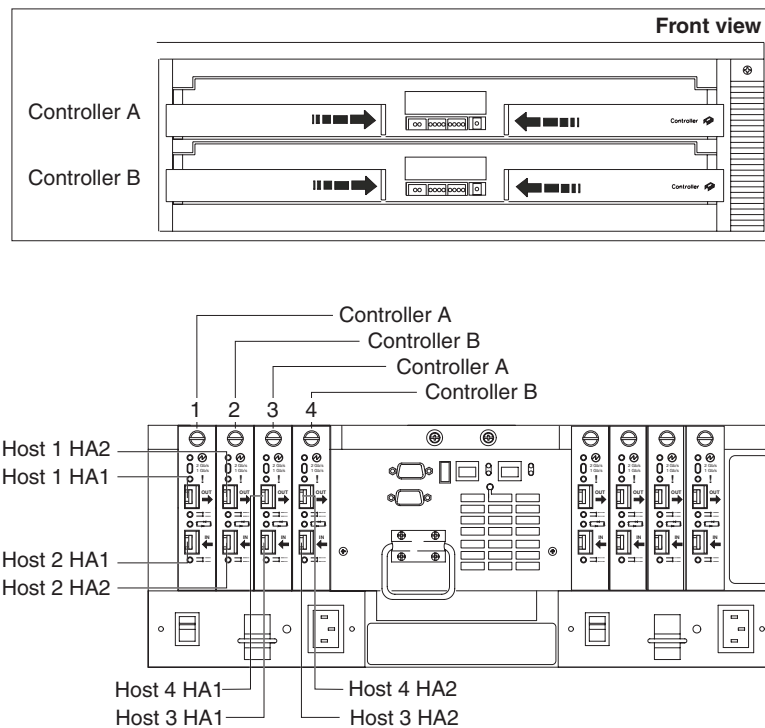

Figure 50. Connecting hosts directly to the controller
1. Connect the first host (Host 1) to the DS4500 Storage Server, as shown in Figure 50.
2. Connect a second host (Host 2) to the DS4500 Storage Server, as shown in Figure 50.
3. Connect a third host (Host 3) to the DS4500 Storage Server, as shown in Figure 50.
4. Connect a fourth host (Host 4) to the DS4500 Storage Server, as shown in Figure 50.